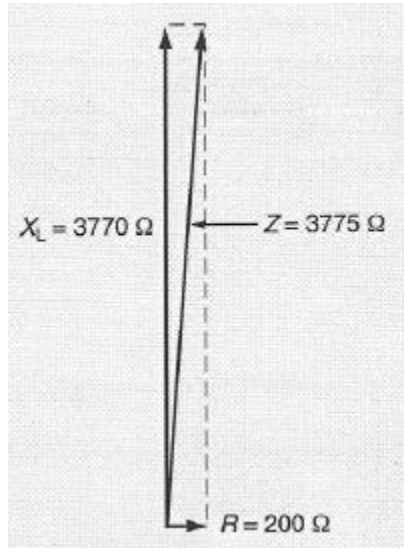

Figure 3.7: Vector Diagram
- 3-61 To calculate the impedance, you can simply apply the Pythagorean theorem to the vector diagram shown in Figure 3.7. The resultant vector has a magnitude of  $3775\Omega$ , which is lower than the algebraic sum of the resistance and reactance. The current in the circuit is  $0.0636\text{ A}$ , calculated from Ohm's law.